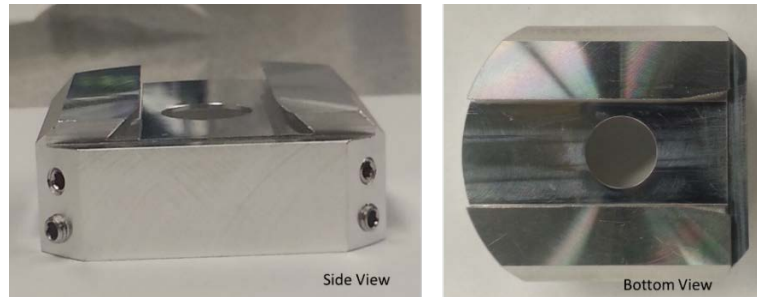

Figure 5 Side and bottom of specimen holder showing the dovetail slide.
7. Load your mounted specimen. The holders have a dovetail slide (Figure 5) on the bottom that fits over the raised circle in the center of the stage. There is a straight edge on the stage and the